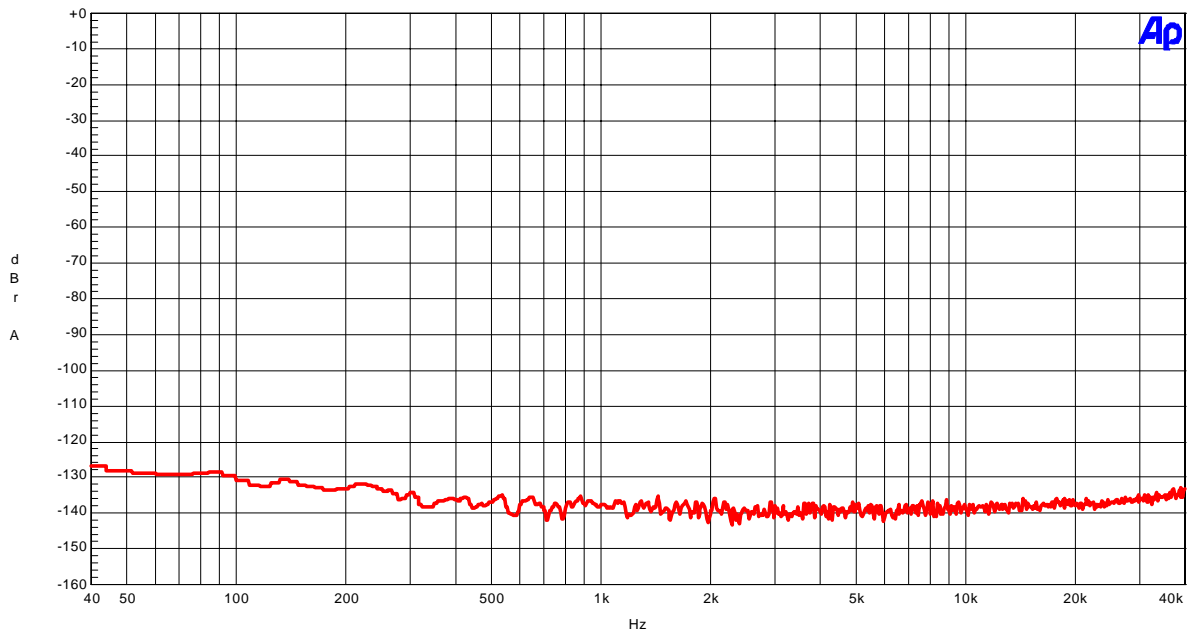

Figure 18. FFT (noise floor)
- Figure 18. FFT (noise floor)